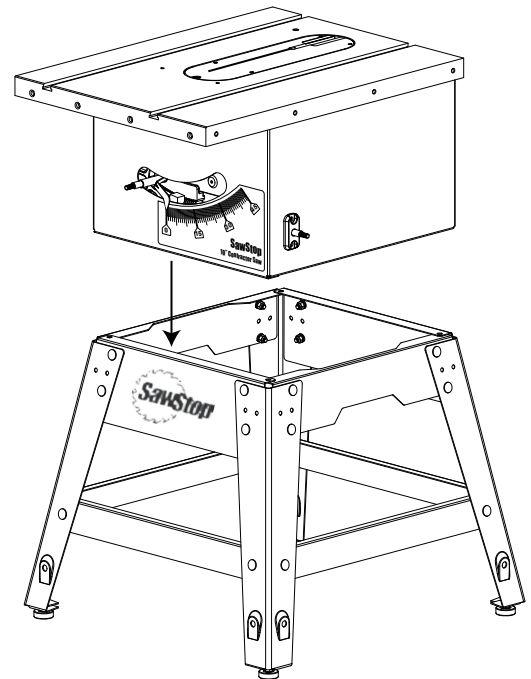

Fig. 11
11. With the help of an assistant, pick up the saw and carefully set it on the assembled stand with the front of the saw above the front panel of the stand (see Fig. 11). Align the mounting holes in the bottom corners of the saw with the mounting holes in the top corners of the stand. While moving the saw do not set it down in the upright position on a solid surface because the dust shroud can be damaged.